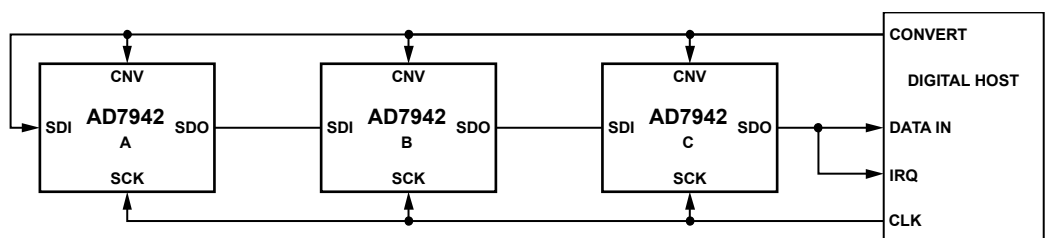
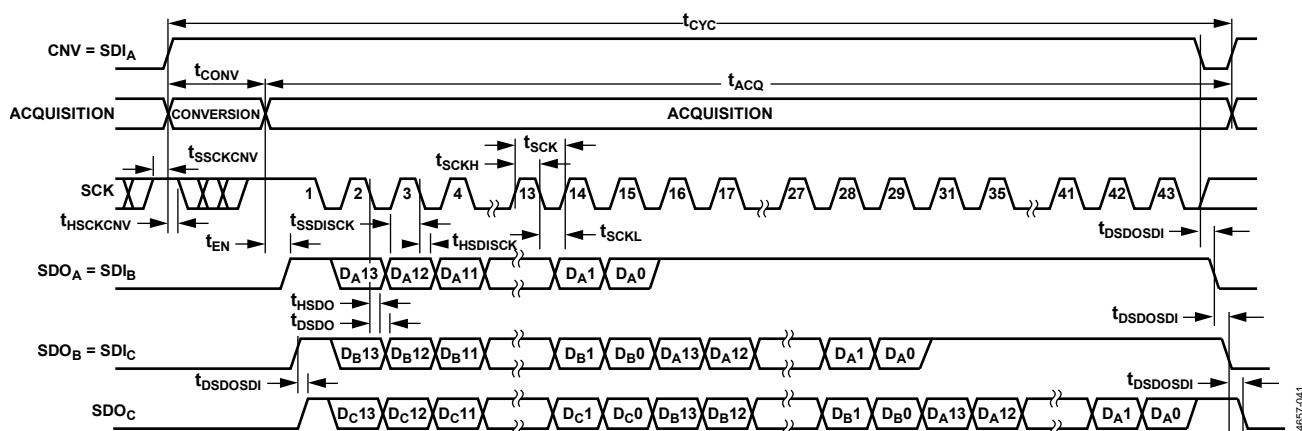

Figure 40. Chain Mode with Busy Indicator Connection Diagram
Figure 41. Chain Mode with Busy Indicator, Serial Interface Timing
- In the chain mode, if SCK is high during the CNV rising edge (see Figure 41).
This mode can also be used to daisy-chain multiple AD7942s on a 3-wire serial interface while providing a busy indicator. This feature is useful for reducing component count and wiring connections, for example, in isolated multiconverter applications or for systems with a limited interfacing capacity. Data readback is analogous to clocking a shift register. A connection diagram example using three AD7942s is shown in Figure 40 and the corresponding timing diagram is given in Figure 41.
When SDI and CNV are low, SDO is driven low. With SCK high, a rising edge on CNV initiates a conversion, selects the chain mode, and enables the busy indicator feature. In this mode, CNV is held high during the conversion phase and the subsequent data readback. When all ADCs in the chain have completed their conversions, SDO in the near end ADC (ADC C in Figure 40) is driven high. This transition on SDO